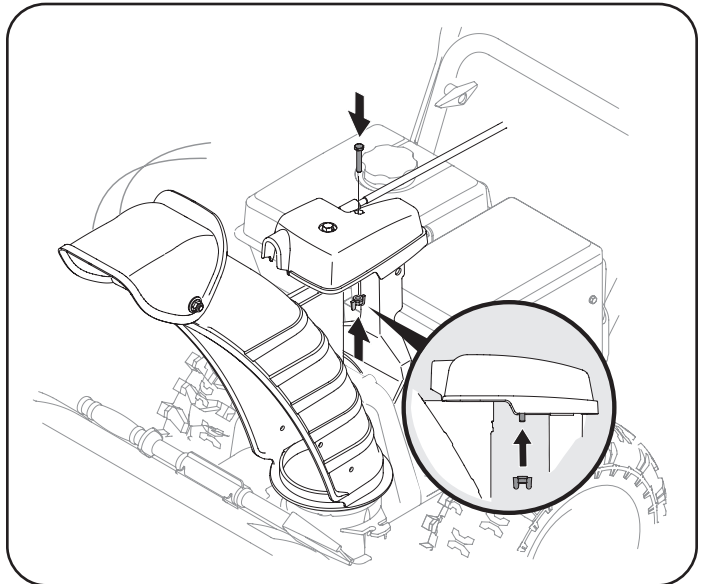

Figure 37
4. Finish securing chute control head by installing hex screw and wing nut removed in Step 2. See Figure 37.